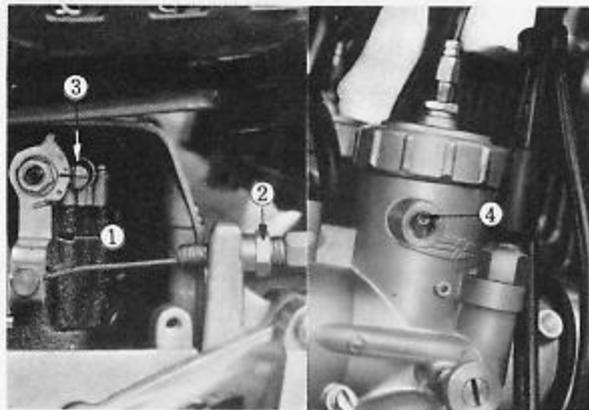

Fig. 2-3 Adjusting oil pump lever
3. Adjust the oil pump lever ① with the cable adjuster ② so that the aligning marks ③ align when the punch mark ④ on the throttle valve comes on upper end of the hole on the carburetor body as the throttle grip gradually winds up. See Fig. 2-3.